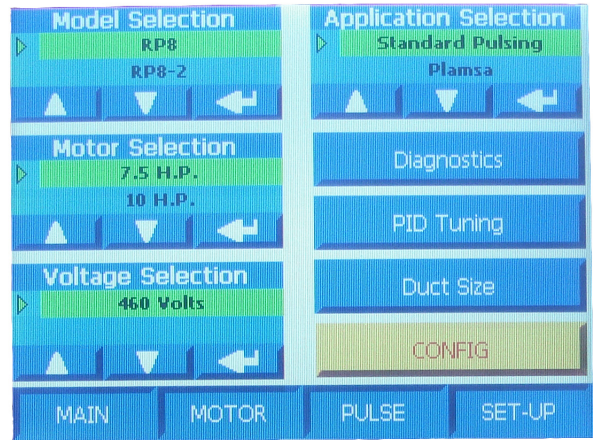

FIG 2
3. Select the model of dust collector. Use the arrow up/down keys to scroll through the model list. Press the enter key to select the model. FIG 2.
4. Select the motor on the dust collector. Use the arrow up/down keys to scroll through the motor list. Press the enter key to select the motor. FIG 2.
5. Select the voltage supplied to the dust collector. Use the arrow up/down keys to scroll through the voltage list. Press the enter key to select the voltage. FIG 2.
6. Select the application for the dust collector. Use the arrow up/down keys to scroll through the application list. Press the enter key to select the application. FIG 2.
7. Press the button labeled “Duct Size”. FIG 2.
- j. Press the button labeled “Duct Size”. FIG 2.